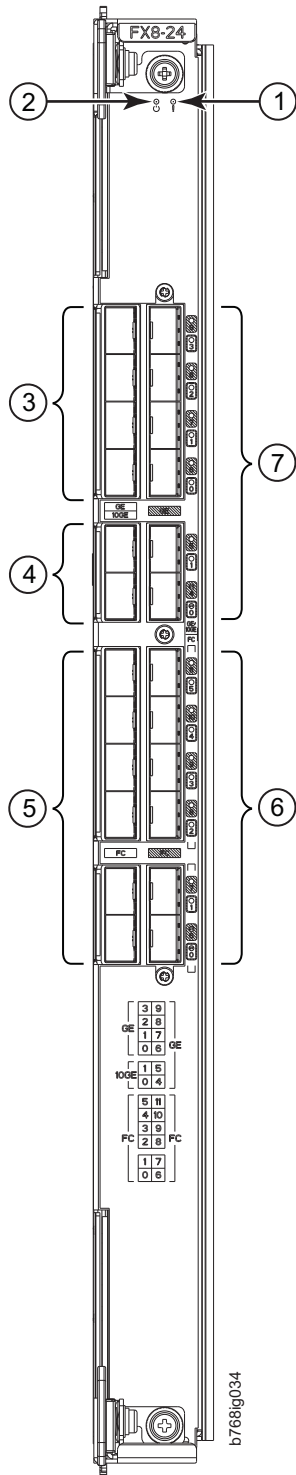

Figure 43. FX8-24 extension blade
- Figure 43 on page 142 shows the FX8-24 extension blade